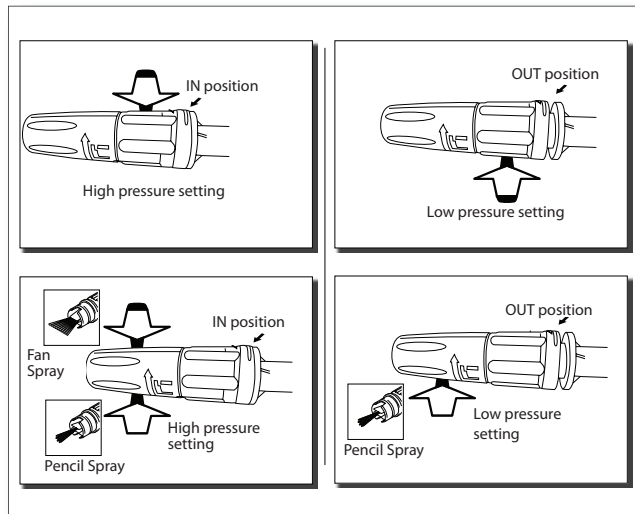

Fig.10
- The adjustable spray nozzle had has two (2) positions (Fig. 10):